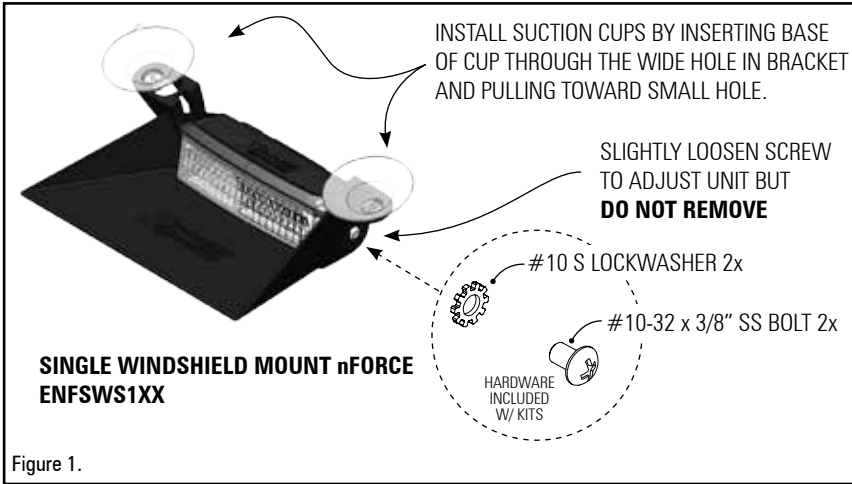

Figure 1.
- 1) Press suction cups into the side yokes of the light as shown in the illustration (See Figure 1.)